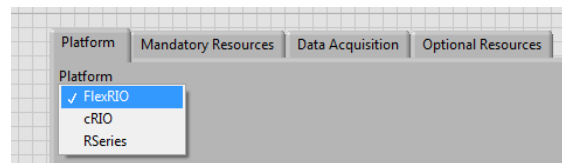

Fig. 83: Selection of the hardware platform
**Platform Tab:** Select the type of target device for which the bitfile is going to be built (Fig. 83).